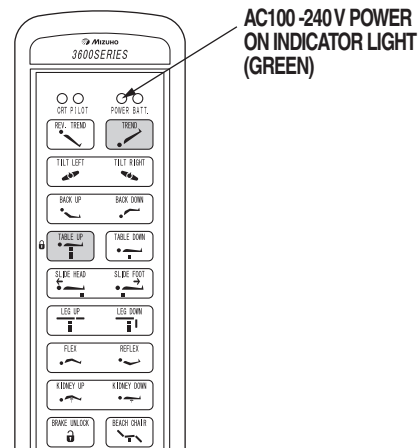

Figure 2-2. Pendant Control
The pendant control buttons and the green AC 100 - 240 V, POWER indicator light located in the upper right corner of the pendant control will illuminate. See figure 2-2.
a. Make sure the Main Power Switch indicator light, on the electrical panel, are OFF. See figure 2-2. If the indicator light is ON, turn AC 100 - 240 V operation OFF with the main power switch.